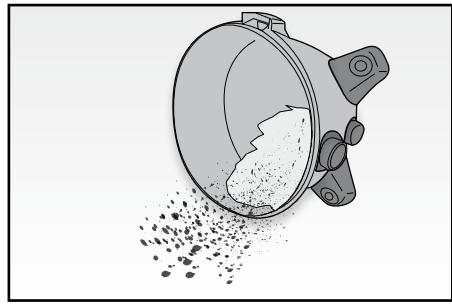

Fig. 7
- Empty out the container (FIG. 7); to prevent dirt from spilling, we recommend placing the container in a bag and emptying it inside it.
- Refit the lid and lock it into place on the lid, using the levers (F).